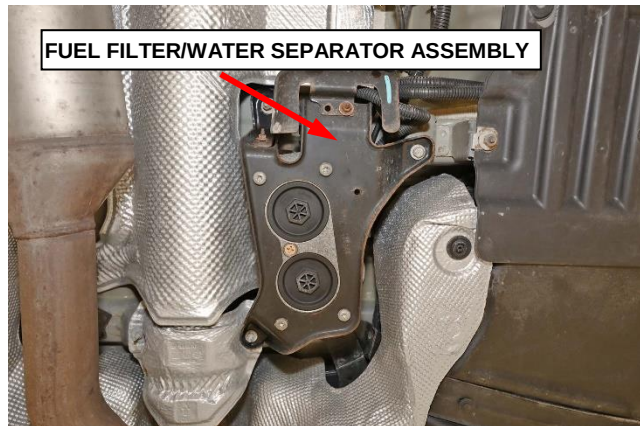

Figure 29 – Fuel Filter/Water Separator Assembly
56. Remove the fuel filter/water separator assembly mounting bolts, and hang the filter assembly to the side (Figure 29).